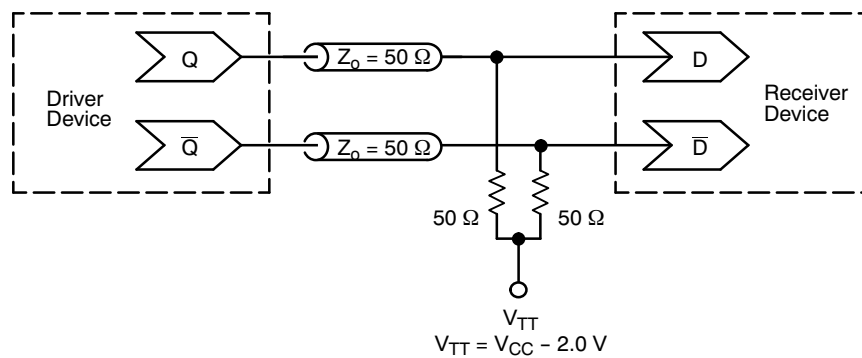

Figure 6. Typical Termination for Output Driver and Device Evaluation
- All outputs loaded with 50 Ω to V_{CC} - 2.0 V. See Figure 6.
12. All outputs loaded with $50\ \Omega$ to $V_{CC} - 2.0\text{ V}$. See Figure 6.
15. Measured with PECL 750 mV source, 50% duty cycle clock source. All outputs loaded with $50\ \Omega$ to $V_{CC} - 2.0\text{ V}$. See Figure 6.